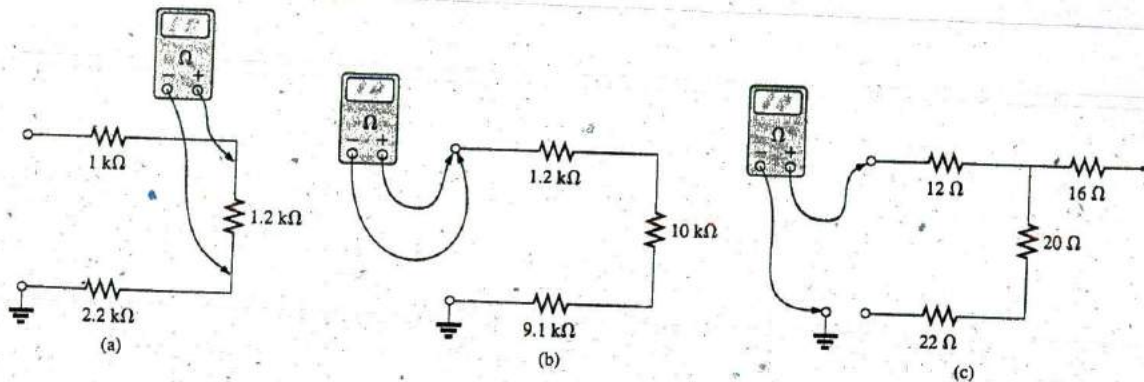

FIG. 5.91
7. What is the ohmmeter reading for each configuration in Fig. 5.91?